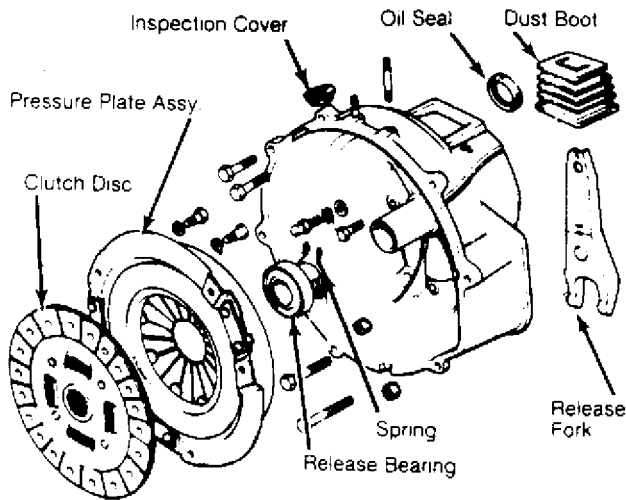

Fig. 1: Exploded View of RWD Clutch Assembly
6) Install clutch assembly alignment tool (49 SE01 310 for all models). Loosen pressure plate mounting bolts evenly, in a diagonal pattern. Separate clutch disc and pressure plate. Remove release bearing and fork. See Fig. 1.